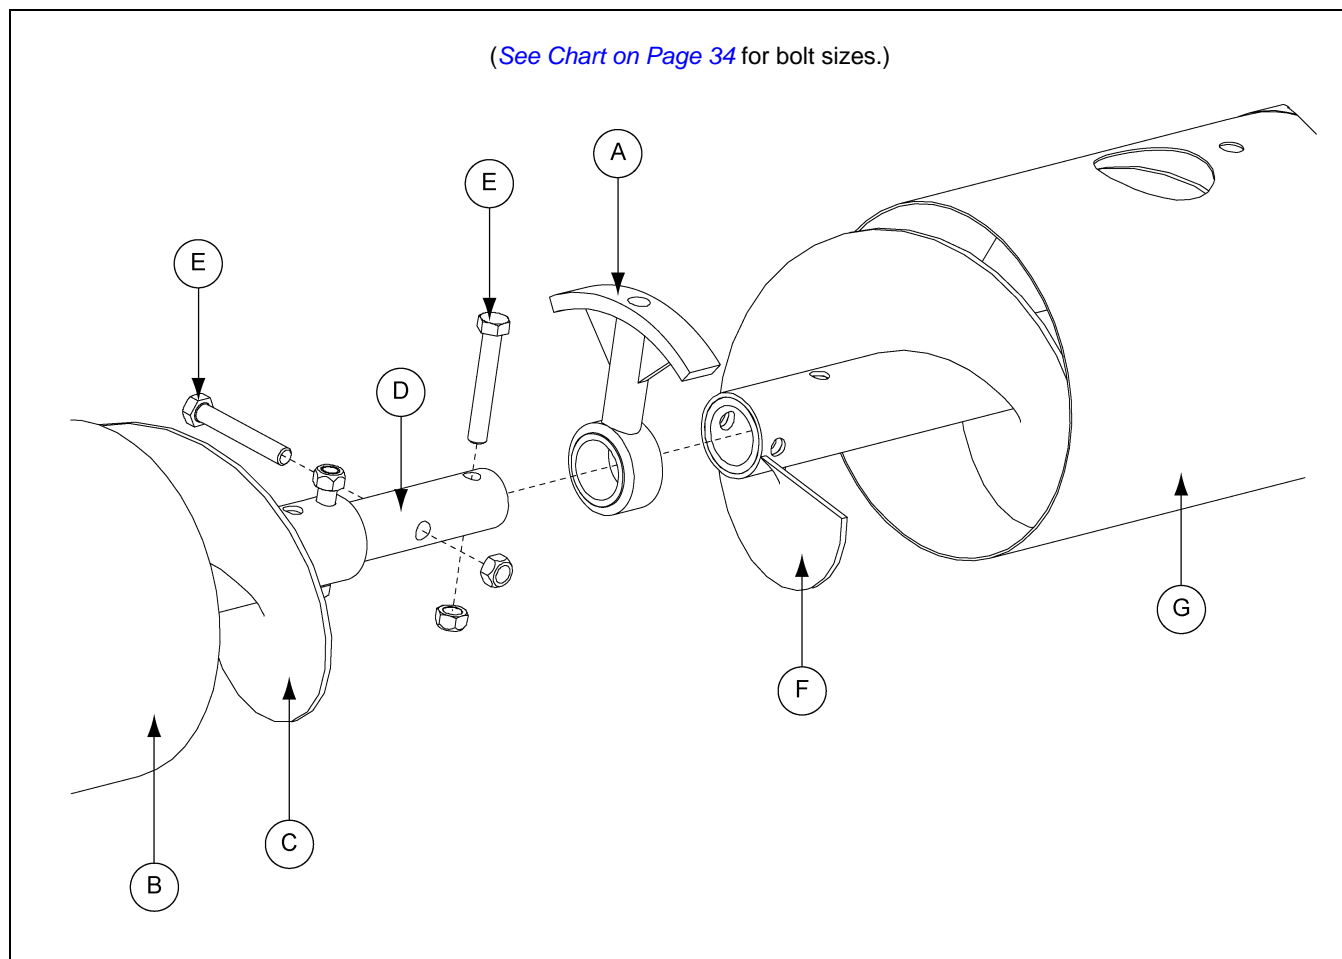

Figure 4R
- Slide hanger bearing (A) onto connecting stub (D), followed by extension flight (F). Bolt extension flight (F) to connecting stub (D) using assigned hardware. (See Chart on Page 34 and Figure 4R.)